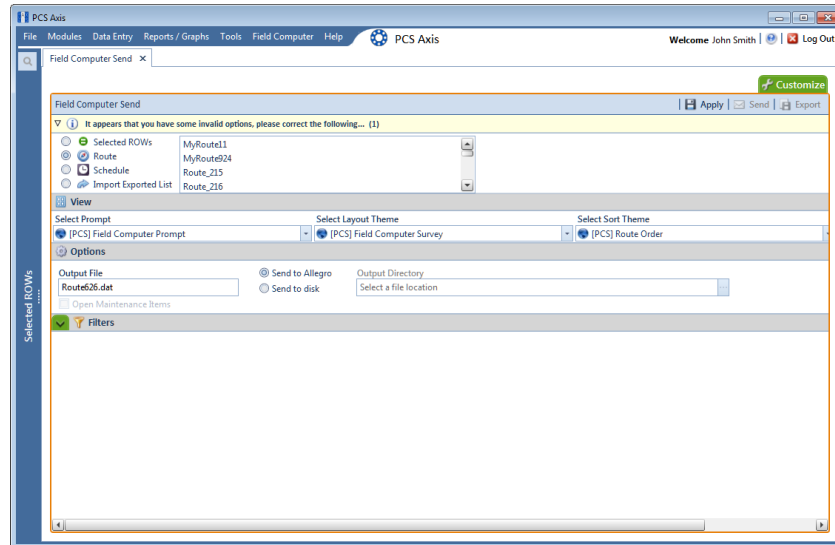

Figure 13-7. Field Computer Send
- 4 Click the **Route** option and then select a route in the selection box. The following figure shows *My Route_2* has been selected (Figure 13-7).
- 6 Select a prompt, layout, and sorting theme as follows (Figure 13-7, page 602):
- a Click the  **Filters** tab to open the *Filters* panel (Figure 13-7, page 602).